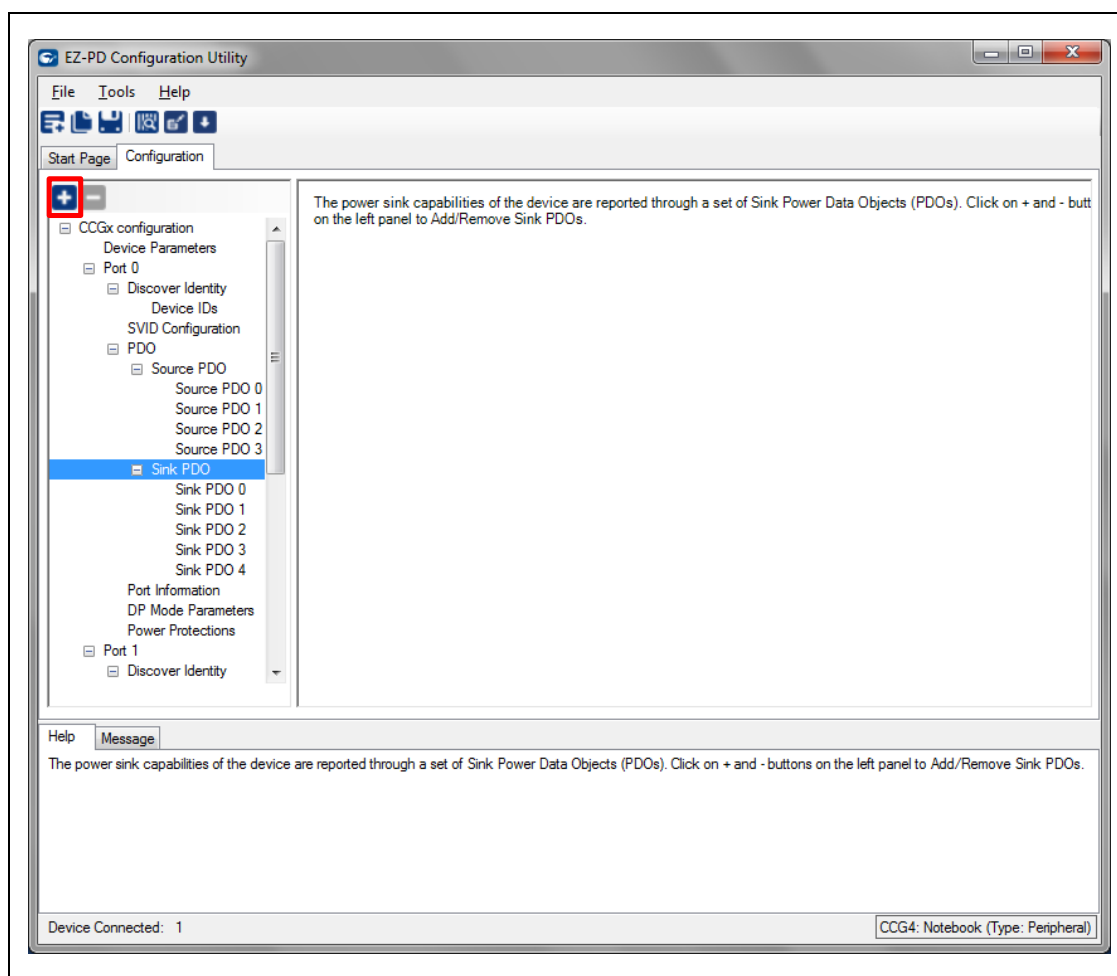

Figure 26 Adding Sink PDO in CCG4 Device Firmware
5. Select the Sink PDO option in the CCGx configuration list. Click the Add (+) button as shown in Figure 26. Sink PDOs 0 to 3 are already supported by the CCG4 device. This step will configure the CCG4 device with the new Sink PDO. EZ-PD configuration utility will display 5 Sink PDOs (from 0 to 4) after the addition of new Sink PDO.